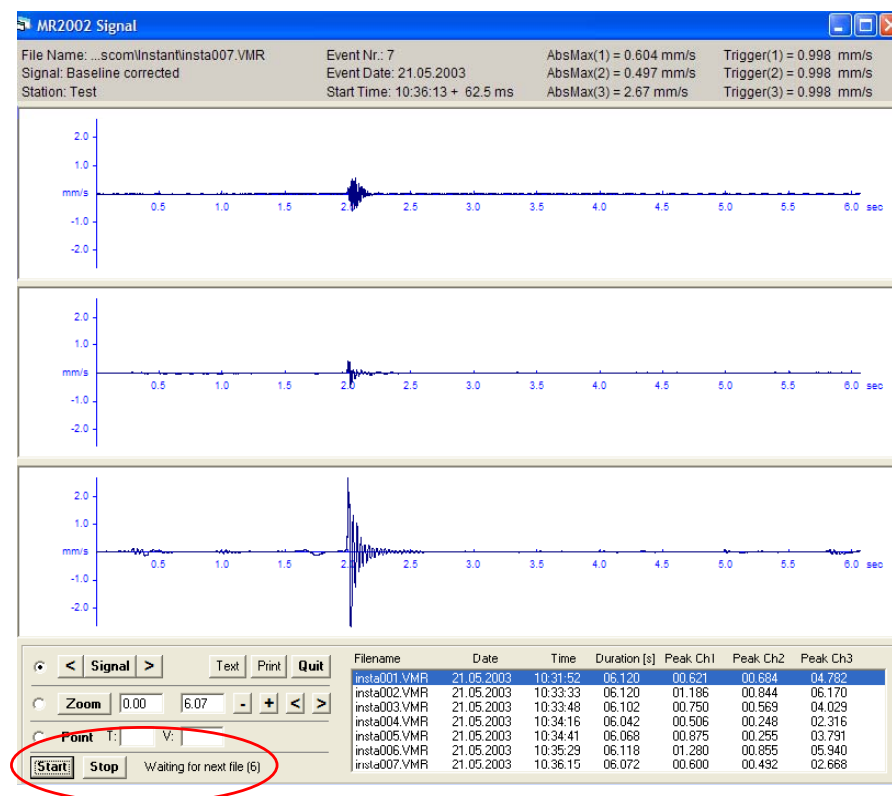

Fig. 3.1
Continuous display uses the MR2002's new ability to automatically upload signal files. These files are continually stored in the directory "C:\Program Files\Syscom\Instant" under the name *insta001.vmr*, *insta002.vmr* and so on. If you select one of these files with VIEW2002, you can display continuously all oncoming files as soon as they become available. To start *Continuous display* you click *Start* in the lower left corner of the signal window (see Fig. 3.1). VIEW2002 will automatically display the signals and wait for the next file if no file is available yet.
- Signal window (as shown in Fig. 3.1)